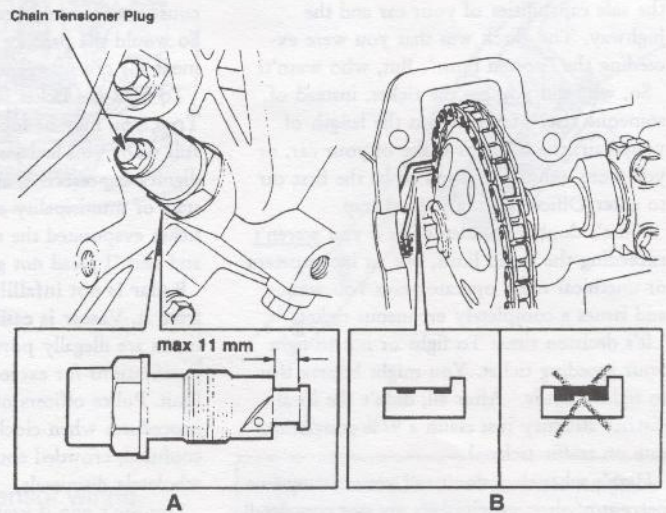

Figure 3-A: Checking chain for wear by measuring the chain tensioner with the plug removed.
4. Check the timing chain for wear by removing the chain tensioner plug with spring and locating stud (plastic) and then removing the chain tensioner. Do NOT change the position of the plunger. Under no circumstances should the chain tensioner extend by more than 11mm. If it exceeds this measurement, the chain should be replaced. The tensioner does not need to be replaced. See Figure 3-A.
If this surface does show signs of wear, the guides will also have to be replaced (Figure 3-B). In that instance, the repair will have to be carried out in the usual way (i.e. engine out of the car). If the wear on both the sprockets and guides is acceptable, replace the chain as described below.